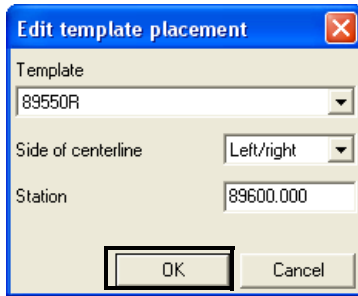

Figure 6-44. Enter Template Placement Information
2. Select and enter the following on the *Edit template placement* dialog box and press **OK** (Figure 6-44):
3. Press **OK** on the *Road template placement* dialog box (Figure 6-44) to save and apply your changes.
3D-Office will automatically convert to the station type (selected on the *Units* dialog box) (Figure 6-44 on page 6-35).